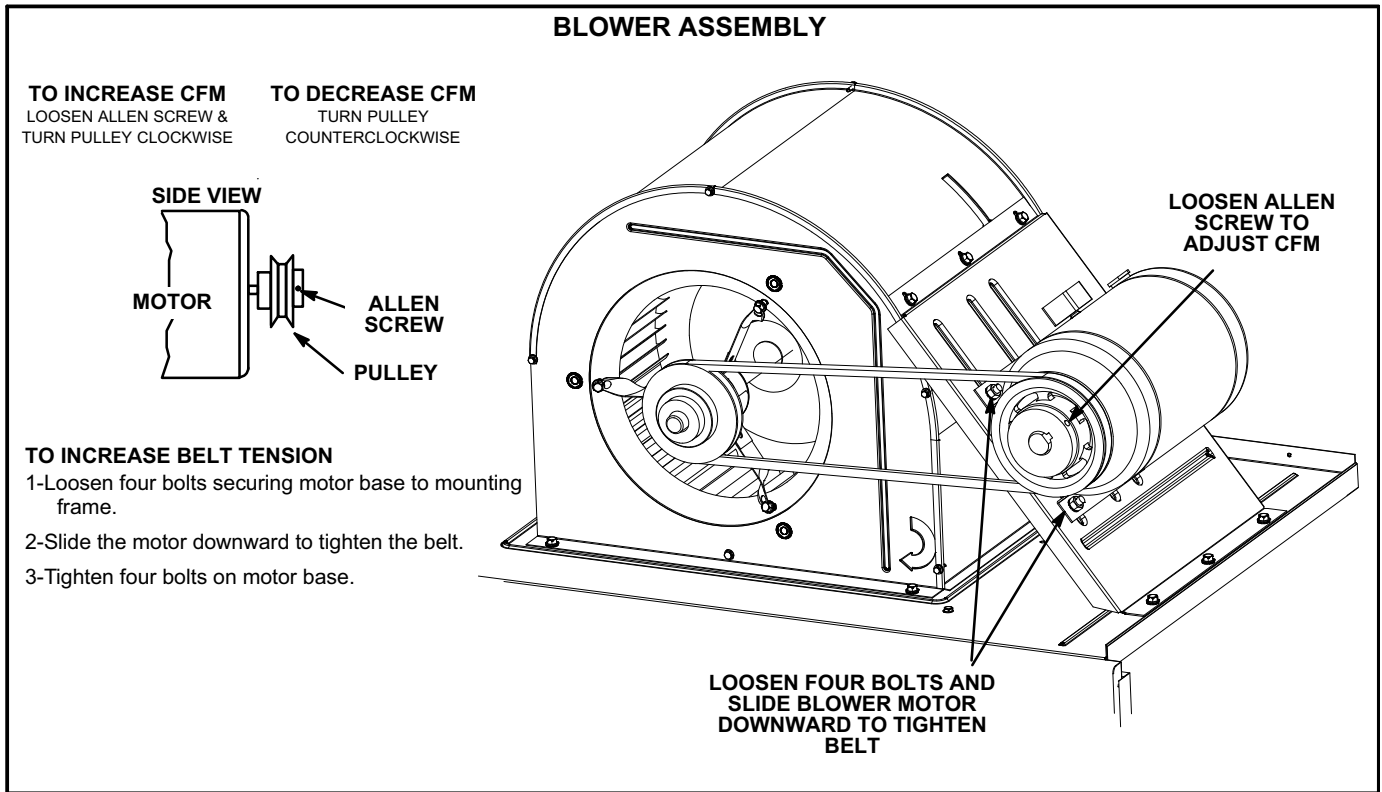

FIGURE 20
- 5- The blower RPM can be adjusted at the motor pulley. Loosen Allen screw and turn adjustable pulley clockwise to increase CFM. Turn counterclockwise to decrease CFM. See figure 20. Do not exceed minimum and maximum number of pulley turns as shown in table 5.
- 1- Loosen four bolts securing motor base to mounting frame. See figure 20.